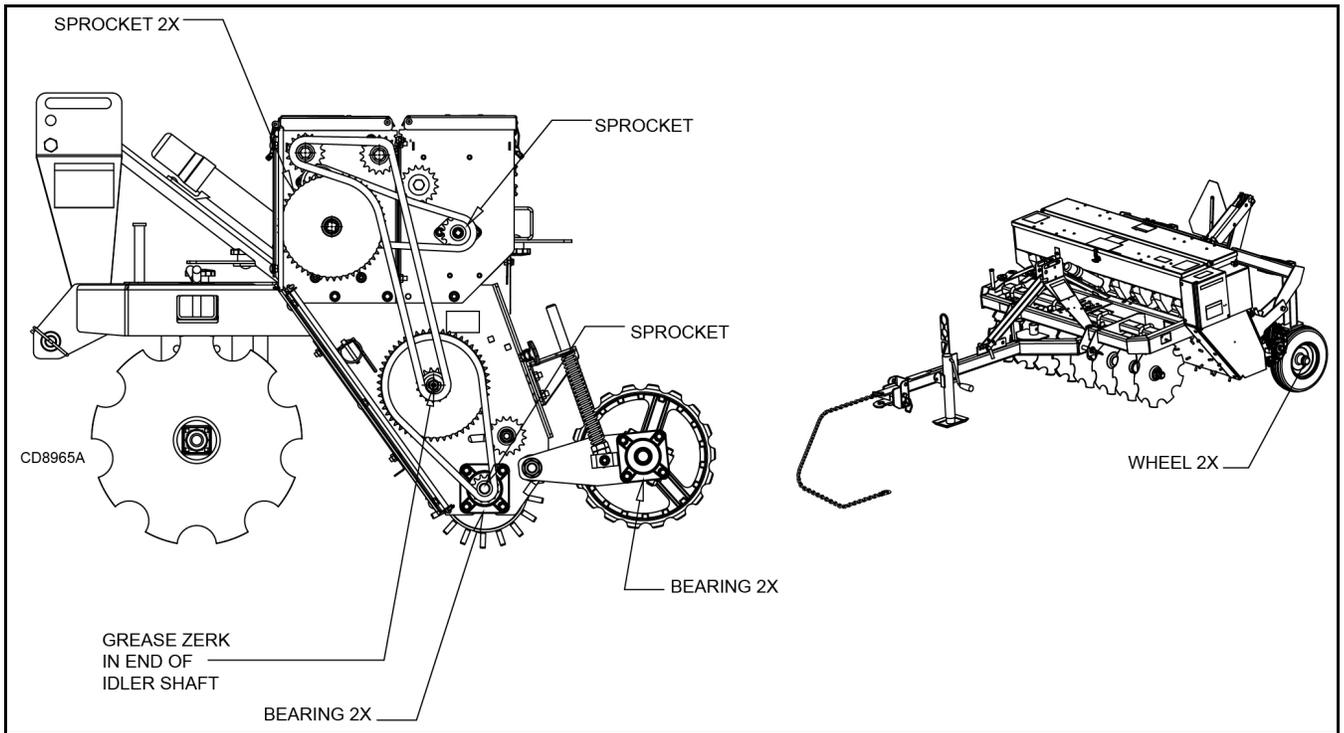

Figure 29. Lubrication Points
- \_\_\_ Check all lubrication points and grease as instructed in Lubrication Information, Figure 29.
1. Lubricate all bearing housings every 8 hours. Bearing housings are located on each end of rollers as indicated by grease fitting. See Figure 29. If equipped with tow kit, repack wheel bearings with grease every 8 hours.